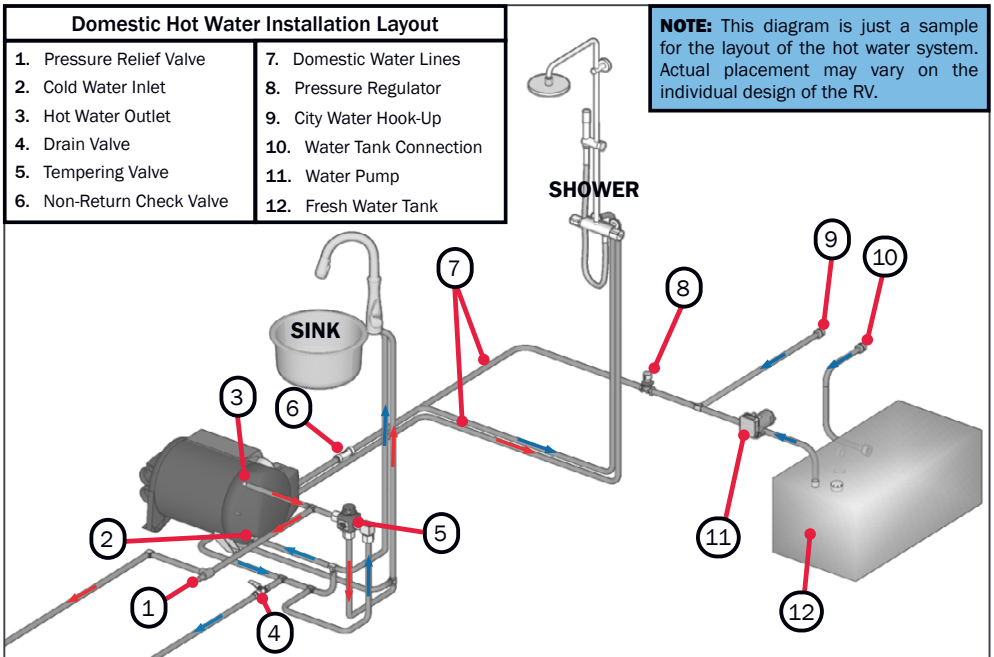

Figure 24
- The non-return valve (#6 Figure 24) must be installed in the proper direction: